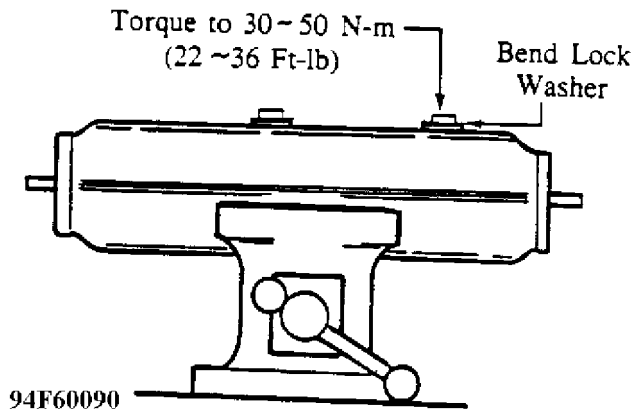

Fig. 24: Installing New Lock Washer on Converter
11. Install a new lock washer and tighten the drain plug No. 2 of the exchange converter to the specified torque and bend the lock washer to prevent the plug from loosening. See Fig. 24.